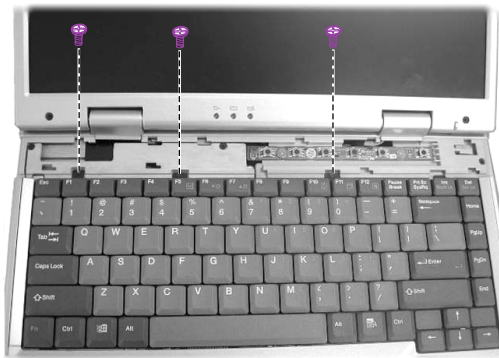

Figure 2-4 Remove three screws
3. Remove three screws fastening keyboard on the base unit cover. (Figure 2-4)